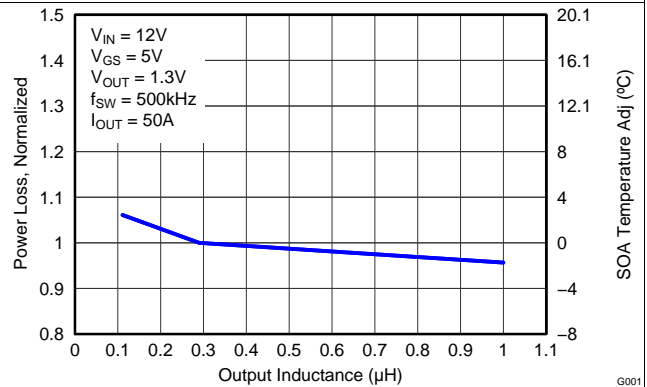

Figure 10. Normalized Power Loss vs Output Inductance
- Normalized power loss for output inductor ≈ 1.03 (Figure 10)
- SOA adjustment for output inductor $\approx 1.3^\circ\text{C}$ (Figure 10)